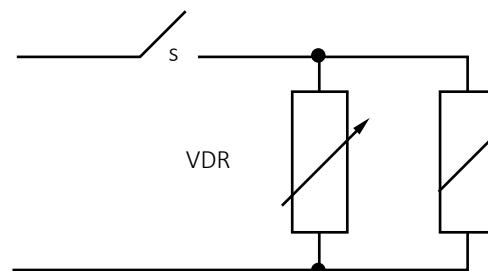

Fig2. Varistor method
2. Varistor method (fig.2) (VDR)